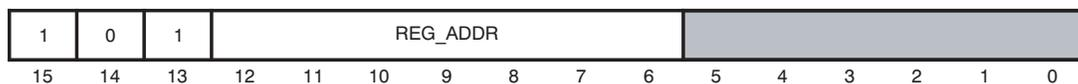
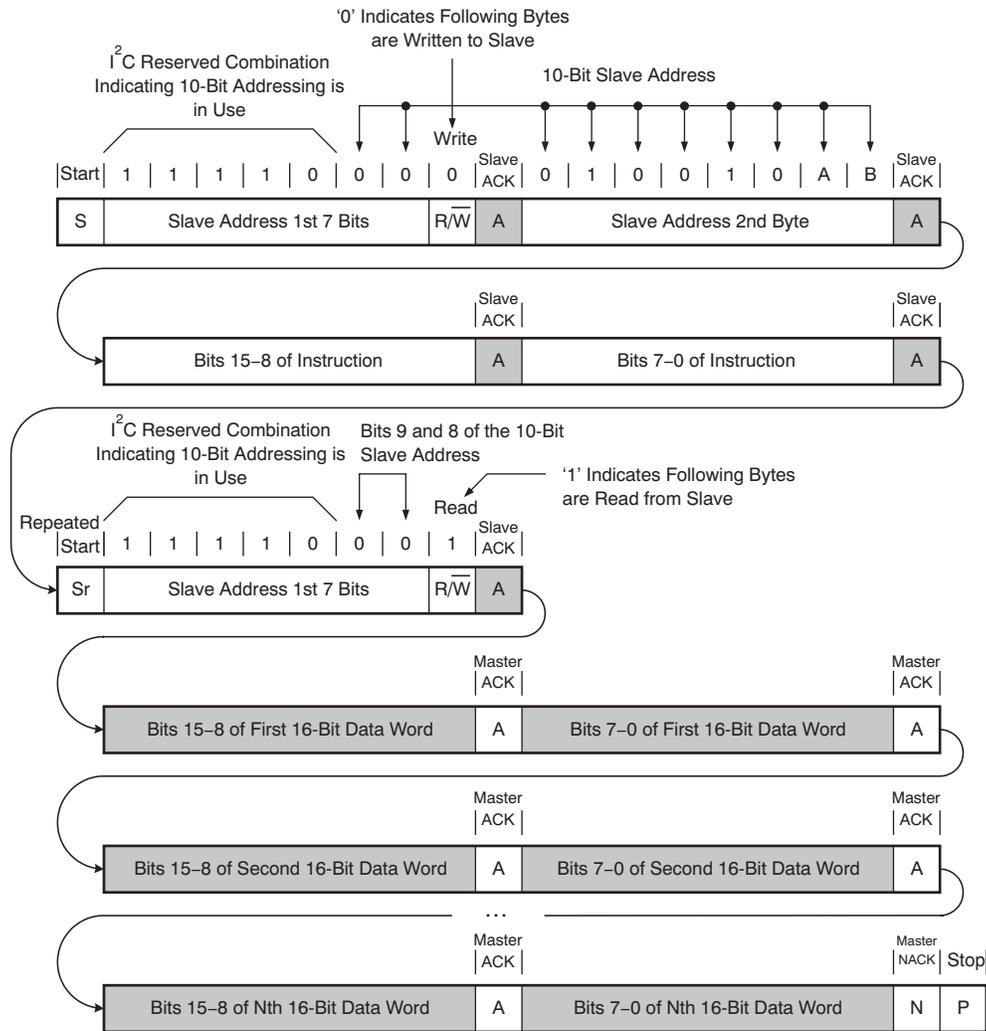

Figure 10. Register Read Instruction Format
Figure 12. Example I²C Read Operation
Read operations require a start condition followed by two bytes describing both a 10-bit address format and the AFE8220 10-bit slave address. The next two bytes must contain the 16-bit instruction word format, as illustrated in Figure 10. A repeated start followed by the first byte of the slave address is then required to create a combined transaction. Note that the R/W bit is set to 1 (read), indicating that subsequent bytes are to be read from the slave. The AFE8220 presents addressed 16-bit data words in 8-bit pairs until a NACK (N) is provided by the master. After the final pair of read data bytes, an I²C stop condition must be provided to terminate the transaction. Figure 12 illustrates a block read transfer of *N* 16-bit data words. Gray areas denote slave-driven SDA cycles; white areas are master-driven.